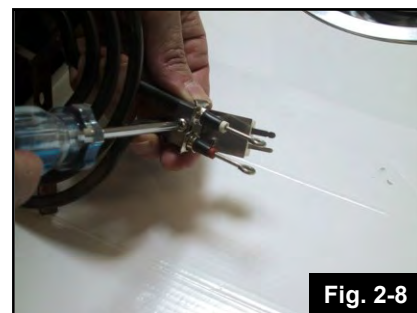

Fig. 2-8
7. Secure the temperature sensor bracket to the element using the M3x12mm screws. (Fig.2-8)